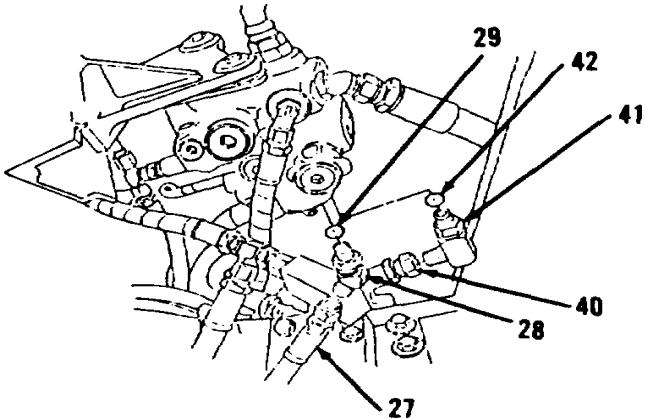

Figure 10-162.
- 5. Connect hose assemblies (54 and 46) on tee (45).
- 6. Install new preformed packing (44) and connector (43).
- 7. Install new preformed packing (42), elbow (41) and hose assembly (40, Figure 10-162) on steering control valve.
- 9. Install new preformed packing (34), connector (33) and tee (32).
- 10. Install hose assemblies (31 and 30) on tee (32).
- 11. Install new preformed packing (29), elbow (28) and hose assembly (27, Figure 10-162) on steering control valve.